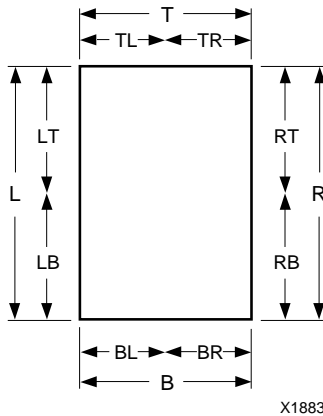

Figure 5-1 Edge Constraints for IOBs
- **Area** — An area of two or more blocks where APR can assign or prohibit a block as part of a placement, as illustrated in Figure 5-1. For example, CLBs can be confined to or prohibited from a rectangular region of the CLB array. IOBs can be assigned to or prohibited from an edge or half-edge of the part.